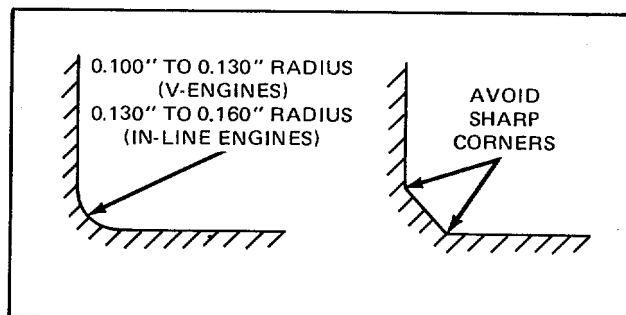

Figure 7. Crankshaft Journal Fillets
3. All journal fillets in the inline crankshafts must have a 0.130 to 0.160 inch radius between the crank cheek and the journal and must not have any sharp grind marks (Fig. 7). The fillet must blend smoothly into the journal and the crank cheek and must be free of scratches. The radius may be checked with a fillet gage.